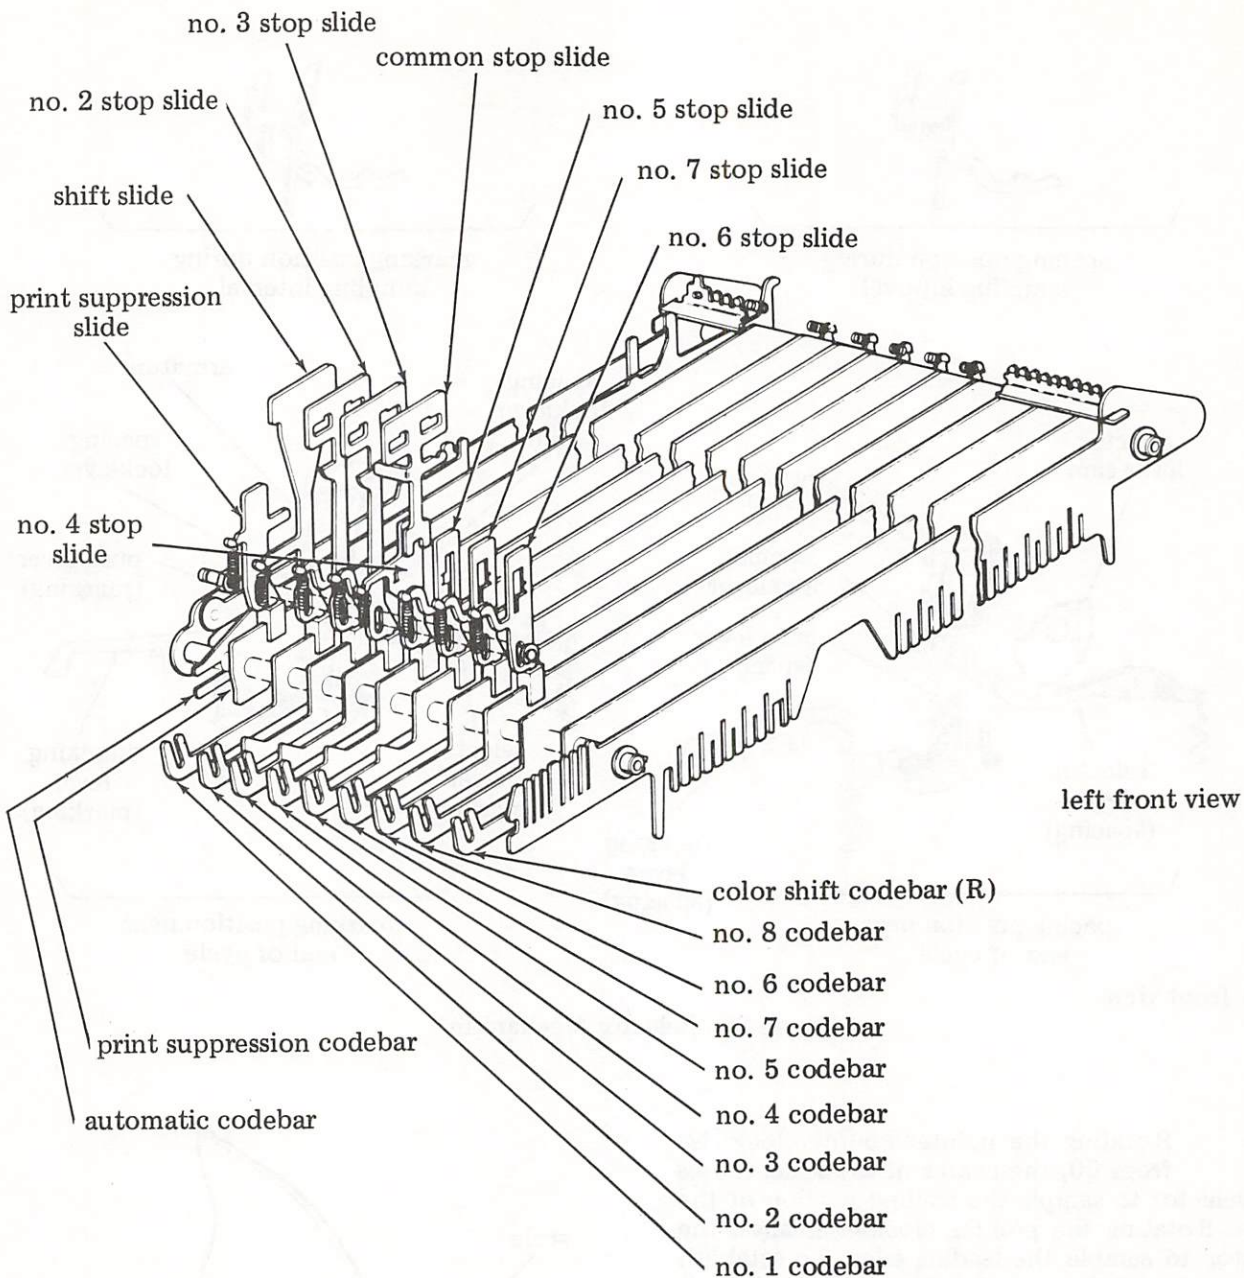

Figure 22 - Codebar Arrangement
4.46 A character to be printed is determined basically by the code combination set up on eight codebars (Figure 22). In order to position the codebars, the selection must first be set up in the selector blocking levers. The codebars must then be allowed to sense the blocking levers.